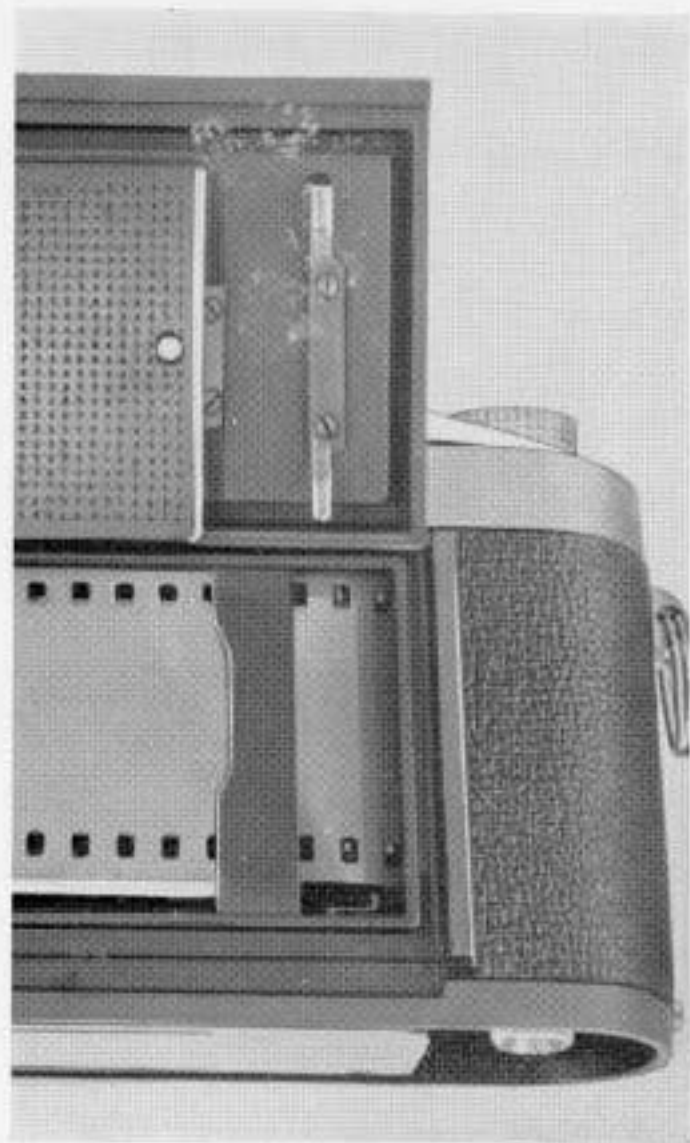

Fig. 6
- (VI) Push the film transport lever slightly, and ascertain whether the sprocket (W) properly catches the perforation of the film. (See Fig. 6)
- (IX) Push the film transport lever all the way, and press the shutter release. Repeat this operation once more in order to advance the portion of the film which was exposed to light during operation. If the film is advancing properly, the rewinding knob (G) will turn in the direction opposite the arrow sign.